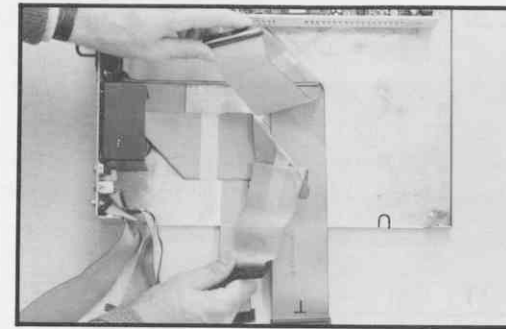

Figure 47 Disk Command and Tape Cables (1/4" Tape System)
4.23 Lift the disk command cable and place it between the tape cables as shown in Figure 47.
4.25 FOR SYSTEMS WITH 1/2" TAPE CONTROLLER, identify the short tape cable. Fold this cable along trace D. Tape it in place as shown in Figure 48. Then put the tape cable under the disk command cable using the technique shown in the top part of Figure 47.